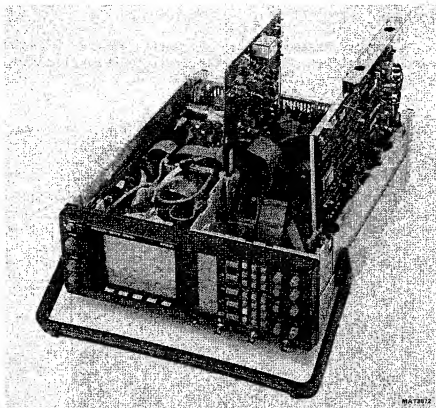

Figure 16.4 Measuring digital unit A9 and time base unit A4 in upright position for measuring in working condition.
- First put the digital unit A9 in upright position. Refer to figure 16.4 that indicates this position.
- Put the digital unit in upright position such as indicated in figure 16.4.
- The complete p.c.b. can be taken out of the instrument after having removed all flat cables. The time base can also be placed upright on the chassis: this is indicated in figure 16.4.
- Put the digital unit A9 and the time base unit A4 in their upright position such as indicated in figure 16.4.
- The digital unit (and its mounting plate) can be put in upright position such as indicated in figure 16.4.